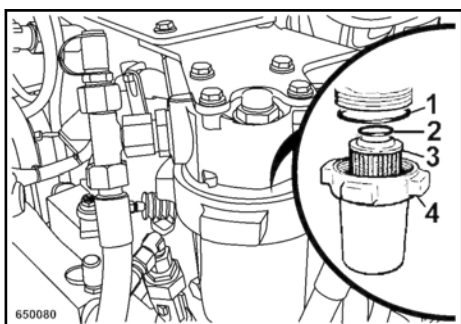

Fig. 131
Remove filter bowl (4) ↘ Fig. 131 with filter element (3).